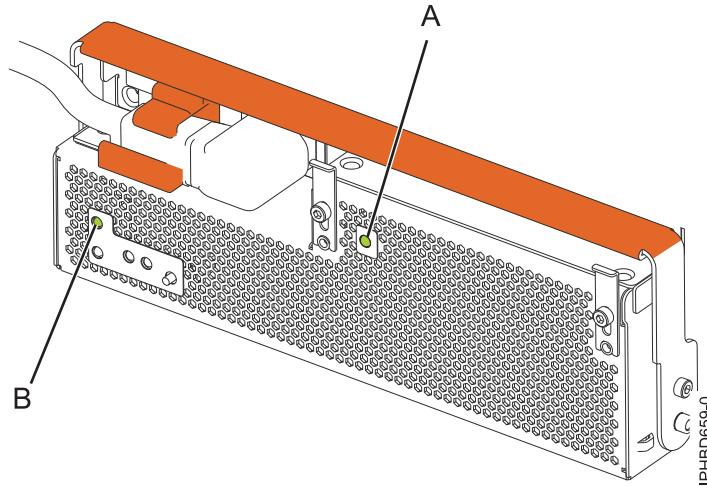

Figure 64. Expansion unit ac power and OCA power LEDs
9. Note the state of the green ac power in **(A)** and Offline Converter Assembly (OCA) power **(B)** light-emitting diodes (LEDs) shown in Figure 64 on page 79, and do one of the following actions, as applicable: